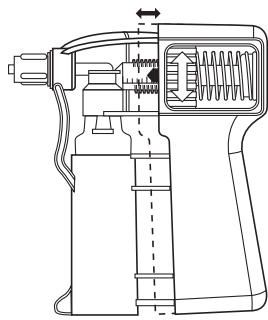

Figure 11
11. The stroke volume ejected from the Squirt can be adjusted from 0 - 1 ml of fluid by turning the knurled knob located in the handle. When holding the Squirt with the Sherlock connector pointed away from user, rotate the knob clockwise to decrease stroke volume. Rotating the knob in a counter-clockwise direction will increase the stroke volume of the device. (See Figure 11) Adjust the plunger tip to the amount of fluid to be infused with each stroke by aligning the plunger ring with the gradation marks on the Squirt's barrel. After activating the trigger once the dosage is set and will deliver the same amount of fluid each time the activation trigger is fully pulled.